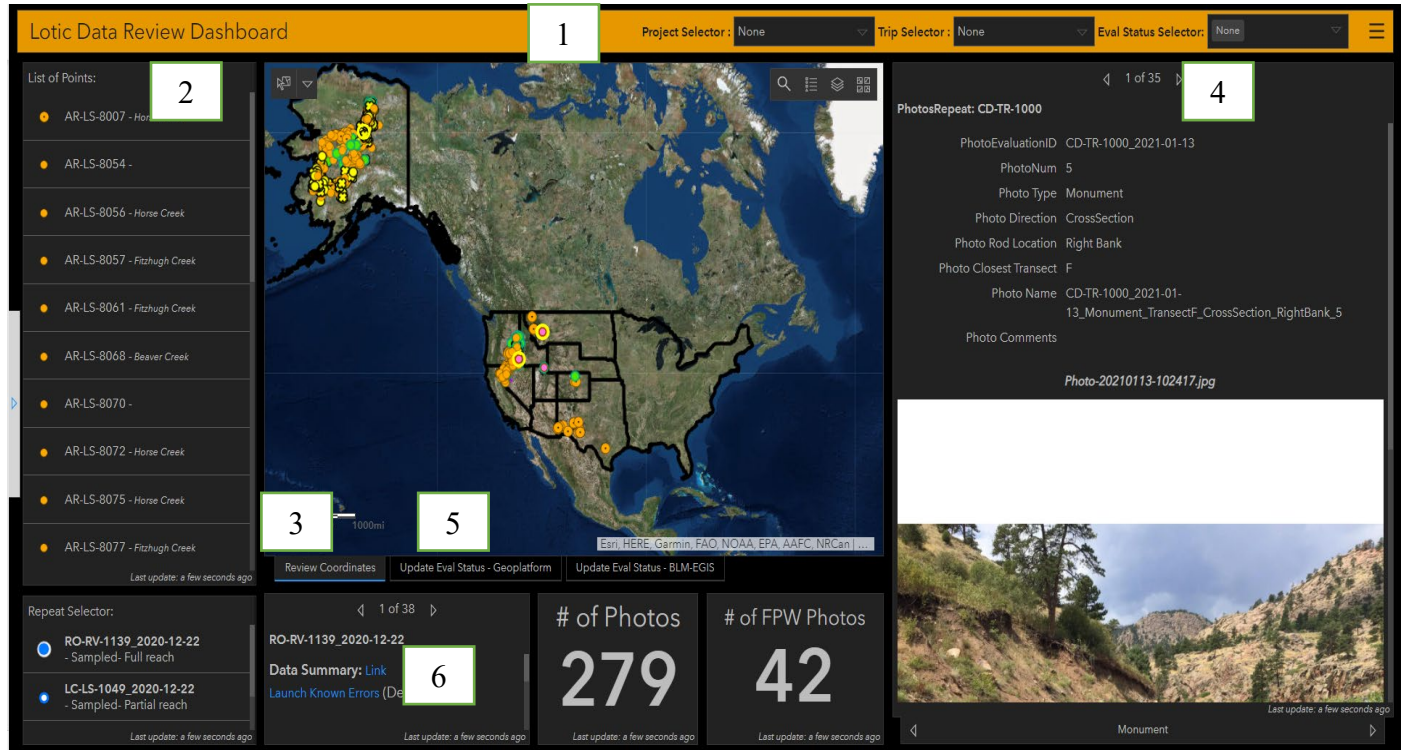

Figure 2. Screenshot of Data Review Dashboard. Numbers correspond to dashboard key components listed above.
Prior to reviewing data from the crew’s first trip, watch the QC webinar which covers detailed instructions on how to use the Data Review Dashboard. Only general instructions are provided below. The data review dashboard has the following key components (Figure 2):
Open the Data Review Dashboard from the BLM Natl Lotic AIM AGOL group page. Select the desired project and trip from the top orange bar (Figure 2, Label #1). This will filter the points displayed on the main map in the “Review Coordinates” tab (Figure 2, Label #3) Select either a PointID on the left panel (Figure 2, Label #2) or an EvaluationID in the lower left panel (if there are multiple visits to a point). Then complete the following steps and repeat this process for each point on the trip:
- A. Using the map tab labeled “Review Coordinates” (Figure 2, Label #3), compare the design coordinates (green symbol from the Points layer) with the sampled coordinates (blue symbol from the Field Visits layer). Ensure the crew visited the correct location and did not incorrectly move the point coordinates in the field. If you have concerns, review the ‘PointMoved’ text in the data summary PDF (Figure 2, Label #6) which indicates if the crew noted that the point was moved in the field. See section 3.2.2 in TR 1735-2 for guidance on moving the point coordinates.
- B. Review bottom (BR) and top (TR) of reach coordinates (Figure 2, Label #3). Ensure they fall on the stream and are approximately equally spaced from the F transect. If not, check the ‘Field Eval Status’ or other fields in the data summary to see if the point may have been partially sampled.
- C. Page through the photos and photo comments (Figure 2, Label #4) to get a feel for the site. There should be photos for all visits to a reach even if it wasn’t sampled. If the reach was sampled, ensure that critical concept, flood-prone width, and bank cover, and stability photos were taken and that unannotated copies were uploaded as well.
- D. If the reach was not sampled, use the photos and photo comments from the Not Sampled tab to determine if the ‘Reason Not Sampled’ is correct and update the ‘Eval Status’ and ‘Reason Not Sampled’ in the Points layer. Click the Field Visit point on the Webmap panel (Figure 2, Label #5) to see the “Not Sampled Comments”.
- a. With a PointID selected and highlighted blue on the left side of your screen (Figure 2, Label #2), in the center of the map, locate the tabs that say “Update Eval Status” (Figure 2, Label #5) and chose the one that matches your account type.
- II. Using the link in the lower-center-left box of the dashboard (Figure 2, Label #6), open the QC Comments form to “Log a Photo Review” and record the extent to which you agreed with the crew’s placement of these features. Use the photo comments field to note any things that you want to discuss with the crew regarding their critical concepts. You should do this even if you agreed with all placements. This will let everyone know that the photos and the initial data has been reviewed. Points that have had photos reviewed are symbolized on the main map with a yellow ring around them.
If the reach was sampled, open the data summary PDF using the link at the bottom-center-left of the page (Figure 2, Label #6). Review the data along with photos paying especial attention to the gray, gold, and blue highlighted boxes on the data summary (Figure 3). Data not highlighted in gray, gold, or blue is not a priority but is provided to assist with discussions with the crew.
Any issues found during this process should be recorded using the “Log an Issue” option in the QC Comments form. This form can be launched from either the dashboard (Figure 2, Label #6) or from the upper right corner green box of every data summary PDF. If something looks unusual, it is best to document it and then have the crew respond to the issue. Some things may look like issues but could very well be acceptable and explainable. We especially want these sorts of things recorded as these can be extremely helpful when reviewing data and indicators in future years.